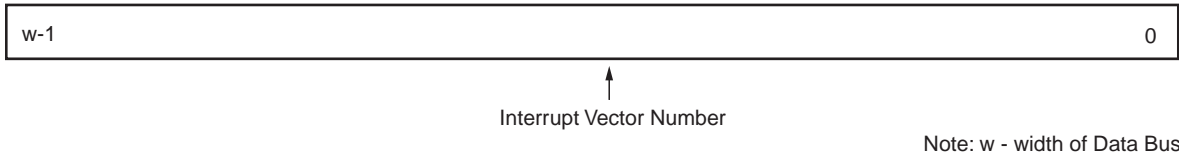
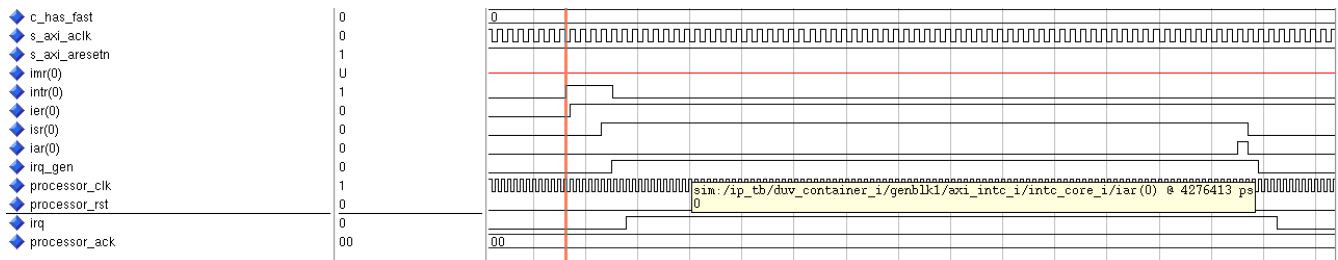

Figure 12: Interrupt Mode Register (IMR)
Figure 14: Input Intr - Edge Sensitive (Rising), Output Irq - Level Sensitive (High), C_HAS_FAST = 0
The Interrupt Mode Register (IMR) is shown in Figure 12 and is described in Figure 14.
- Configured Input Interrupt (Intr) for Edge sensitive (rising), Output Interrupt Request (Irq) to Level sensitive (active High), disabled fast interrupt logic (C_HAS_FAST = 0). Timing diagram is shown in Figure 14.